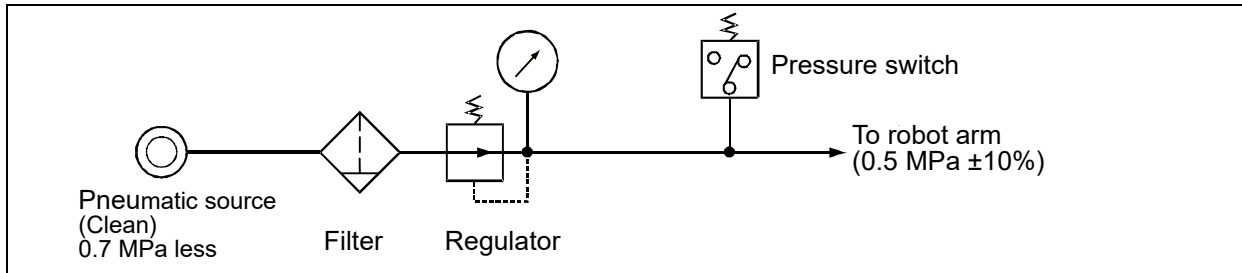

Fig.2-23: Air supply circuit example for the hand
Fig. 2-23 shows an example of the pneumatic circuit of air supply for the hand.
- (1) Make sure that a surge voltage protection circuit such as a diode is connected to the solenoid coil in parallel.
- (2) When the factory pneumatic pressure drops, as a result of the hand clamp strength weakening, there can be damage to the work. To prevent it, install a pressure switch to the source of the air as shown in Fig. 2-23 and use the circuit described so that the robot stops when pressure drops. Use a hand with a spring-pressure clamp, or a mechanical lock-type hand, that can be used in cases where the pressure switch becomes damaged.
- (3) If the air supply temperature (primary piping) used for the tool etc. is lower than ambient air temperature, the dew condensation may occur on the coupling or the hose surface.